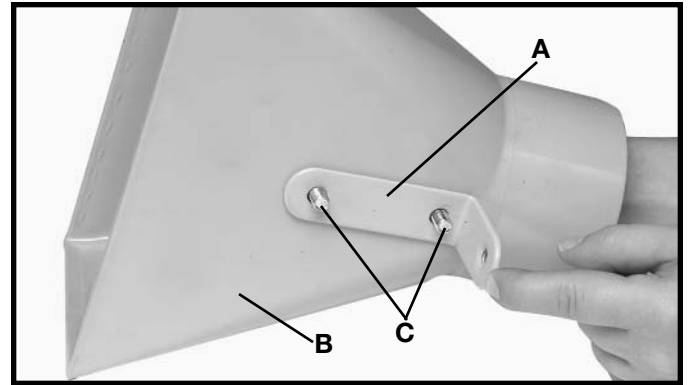

Fig. 11
5. Fasten the intake support angle brace to the intake funnel by inserting the two 5/16-18x5/8" button head carriage bolts (C) thru the intake funnel (B) and the intake support angle brace (A) as shown in Fig. 11.